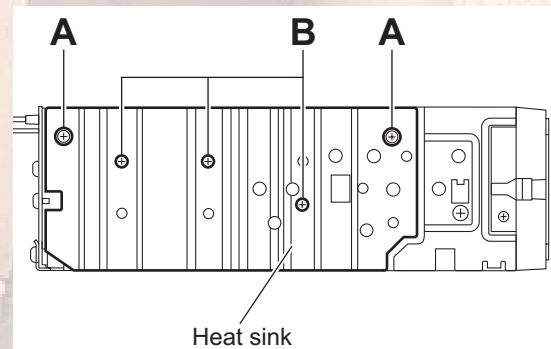

Fig.2
3.1.2 Removing the heat sink (See Fig.2)